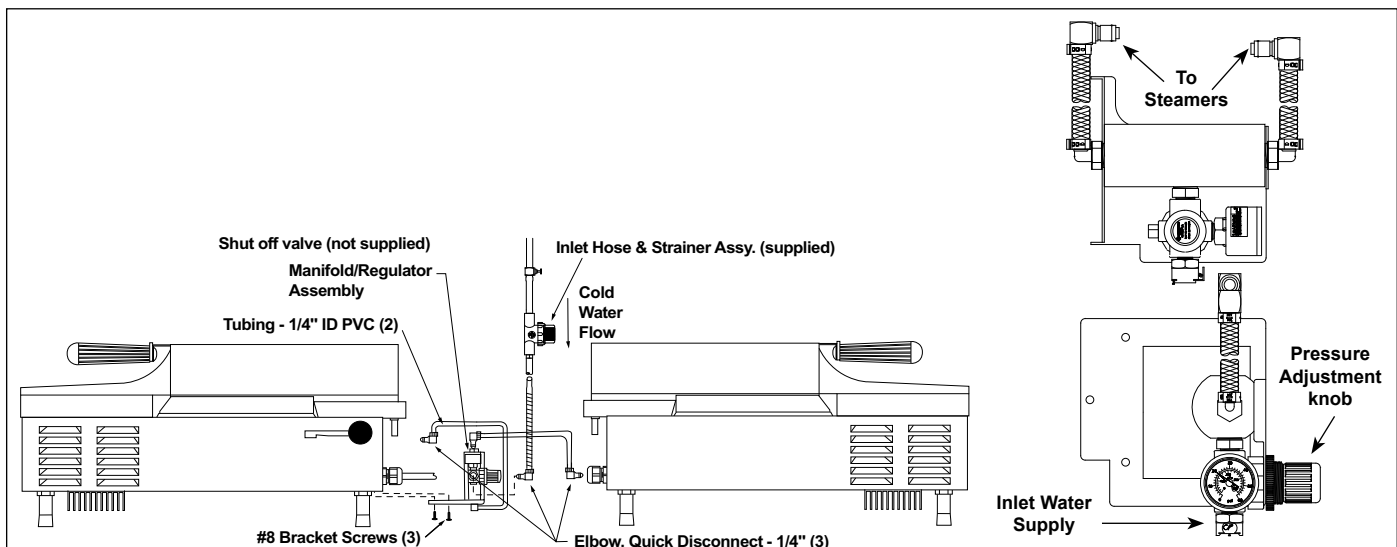
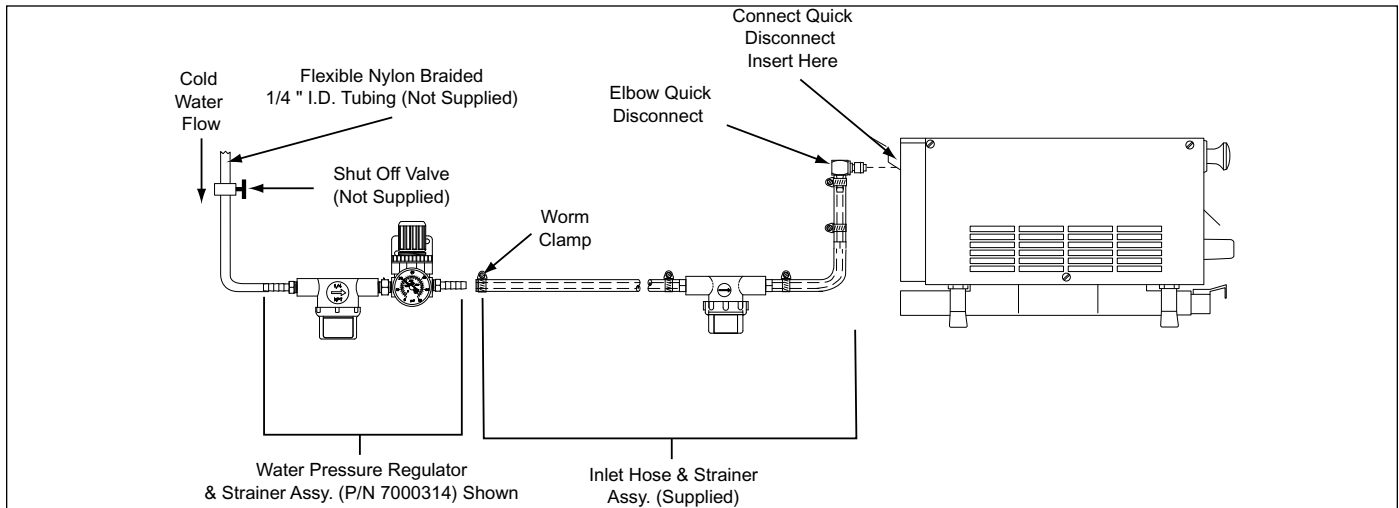

Figure 2A. Connecting Dual Manifold Water Pressure Regulator (P/N 7000235)
Figure 2. Connecting Single Water Pressure Regulator
Your VS-350 requires direct water hookup. An Inlet Hose and Strainer assembly (Figure 2 and 2A) is supplied with the unit. A water pressure regulator (P/N 7000235 (Figure 2A) to feed 2 steamers or P/N 7000314 (Figure 2) to feed 1 steamer), must first be installed.
1. Install the regulator assembly to the steamer as shown in Figure 2 and 2A.
3. Push the "white" plastic tip on each 1/4" elbow Quick Disconnect (Figure 2 and 2A) and hold for a few seconds to purge out air in the line and allow water to flow freely into a bucket with a steady stream.